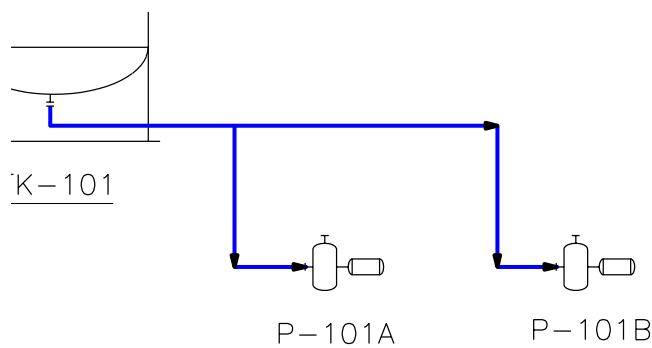

Figure 2-53 Line connecting the horizontal nozzle of the pump tagged **P-101A**
4. Create a line connecting the previously created line to the horizontal nozzle of the pump tagged **P-101A**, refer to Figure 2-53. Assign the tag **10"-CS150-P-1004** to the line.